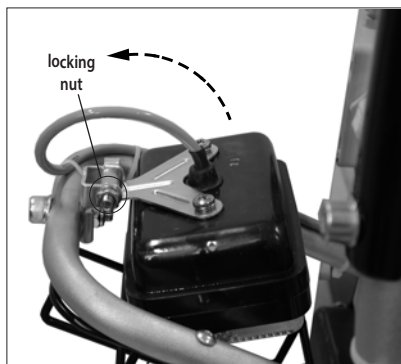

FIG. 14b
6.1.3) Changing worklight bulbs (Ref. to Fig. 14b-d)
- Loosen the locking nut (Fig. 14b).